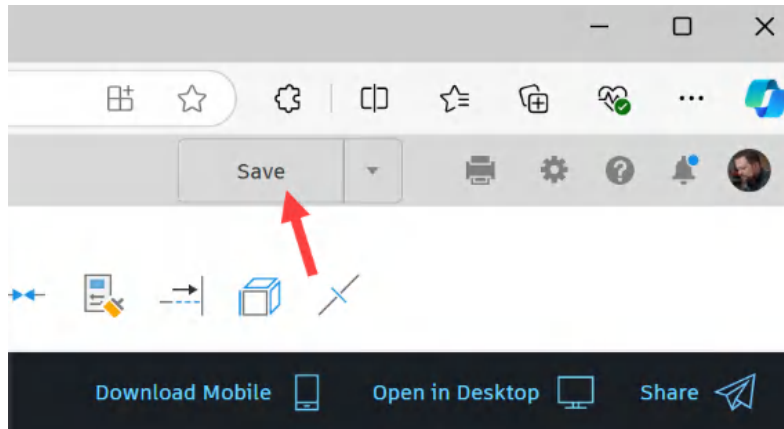

Figure 16.29: The Save icon in AutoCAD Web
11. The updated trace is now set in the DWG file, and you now need to save the drawing to the cloud to make sure that the updated trace is available to other collaborators. Use the **Save** icon in the top-right corner of the AutoCAD Web application window, as shown in *Figure 16.29*.